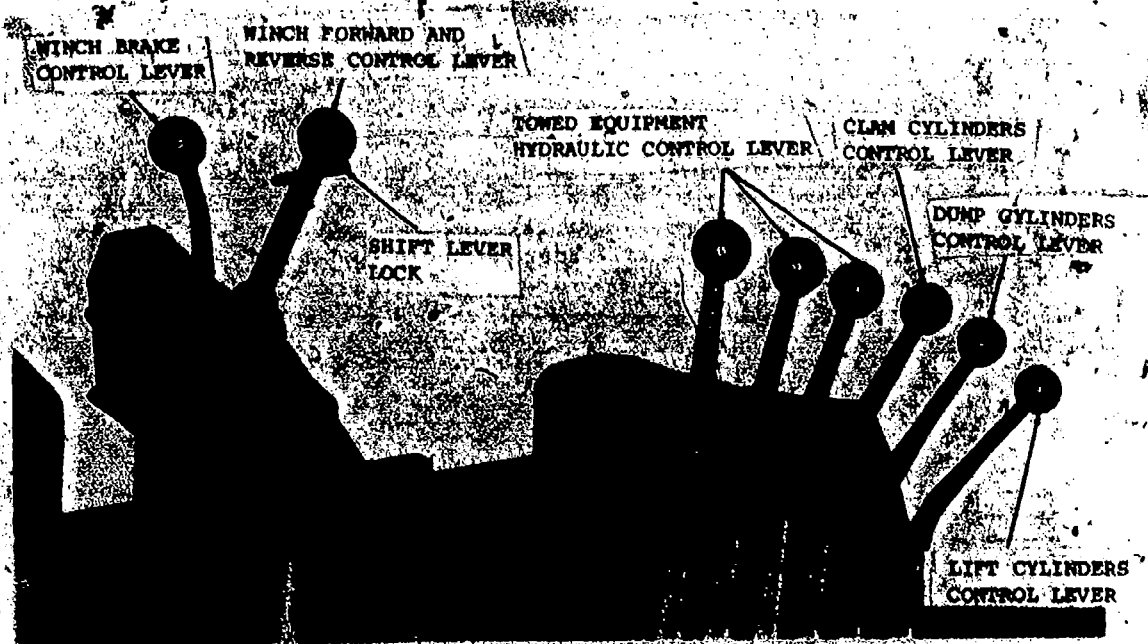

Fig 4-32. Case MC 1150 control levers.
b. Controls (fig 4-32). The bucket hydraulic control levers on the Case MC 1150 scooploader actuate spools in the hydraulic control valve to apply hydraulic pressure to one end of the corresponding cylinders and to provide a return from the other end of the cylinders. The center position for each lever is a hold position for the corresponding cylinders.